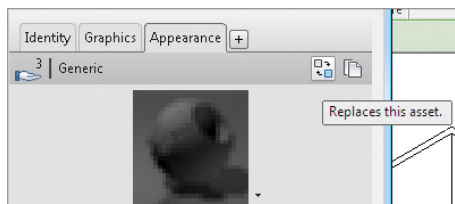

FIGURE 9.4 Editing the Appearance asset
5. Click the Appearance tab, and click the Swap icon at the right end of the row (Figure 9.4) to open the Asset Browser.